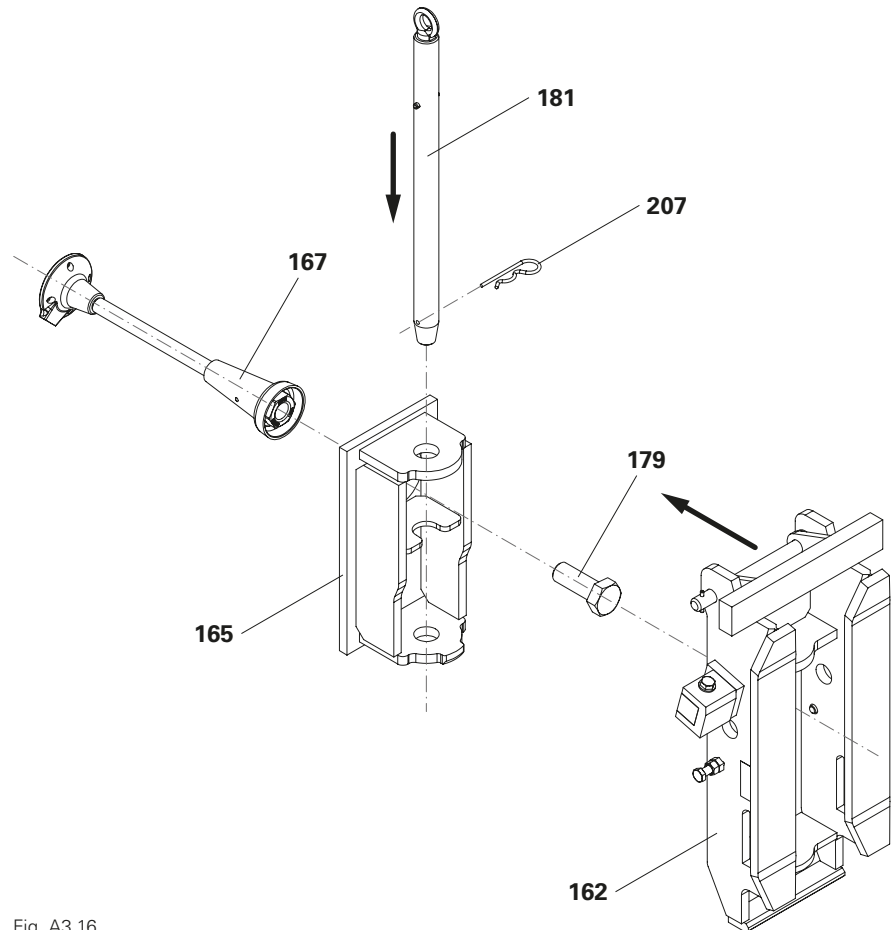

Fig. A3.16
3. Fasten with bolt  $\varnothing$  35 x 525 ACS (**181**) and secure with cotter pins 5/1 (**207**). (Fig. A3.16)